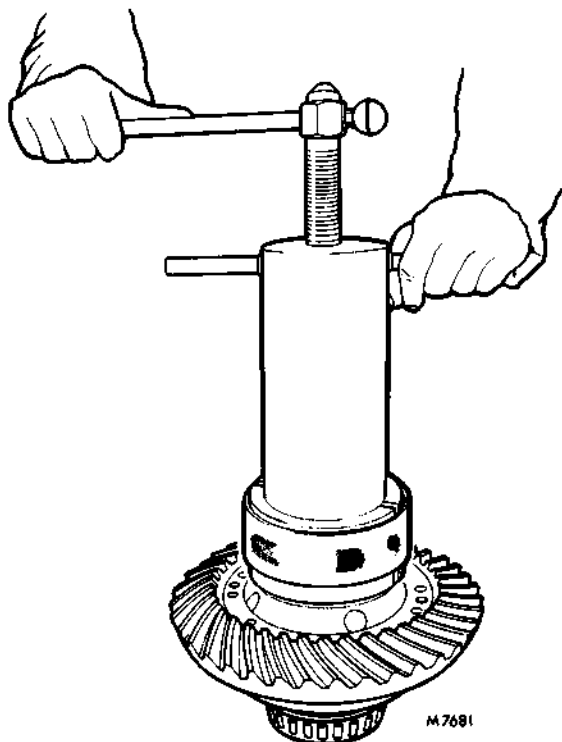

FIG. 2. WITHDRAWING DIFFERENTIAL BEARINGS
1. Using tool D 707 with adaptor sets D 707-4 and D 707-5, Fig. 2, remove the bearing races from the differential casing.